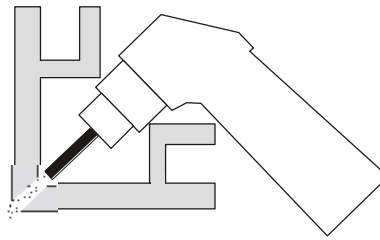

Fig. 7
7. In case of cutting in the corner or around the corner (see Figure 7), use the